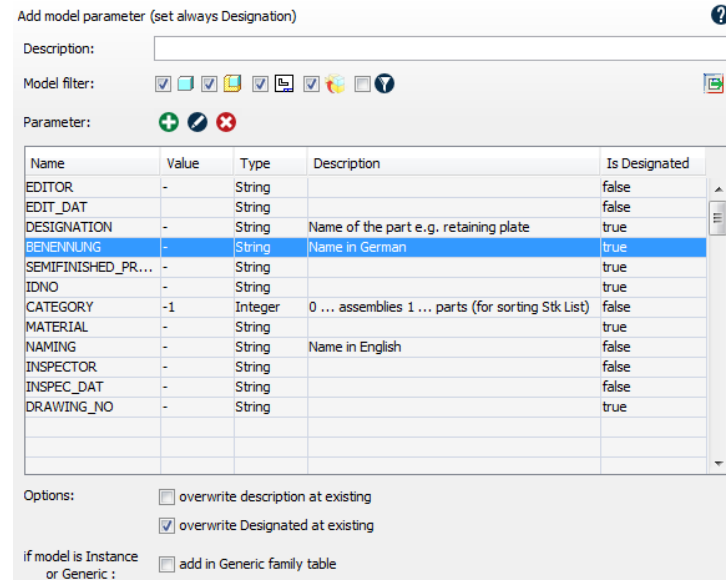

Figure 8 - Adding parameters
3. Next, add an action “**Add parameter**” from the “**Model – Parameters**” action group. Using the green plus **+**, you can add parameters to the list. All settings of the action can be found in “Figure 8 - Adding parameters”. Ensure that the action definition “**overwrite designated at existing**” is activated.